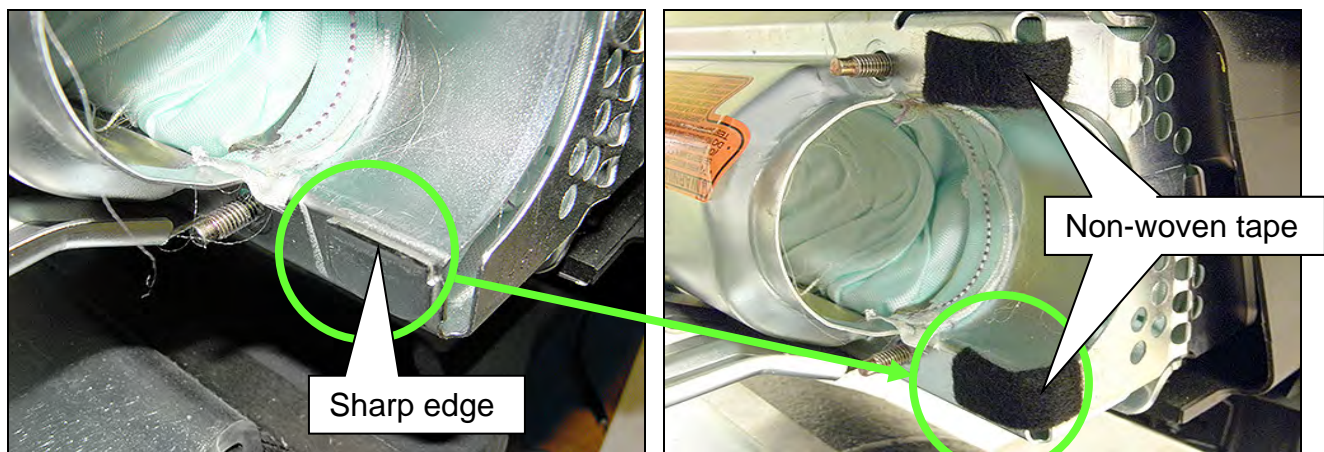

Figure S15
16. Apply non-woven tape over the sharp edges where the cuts were made (Figure S15).